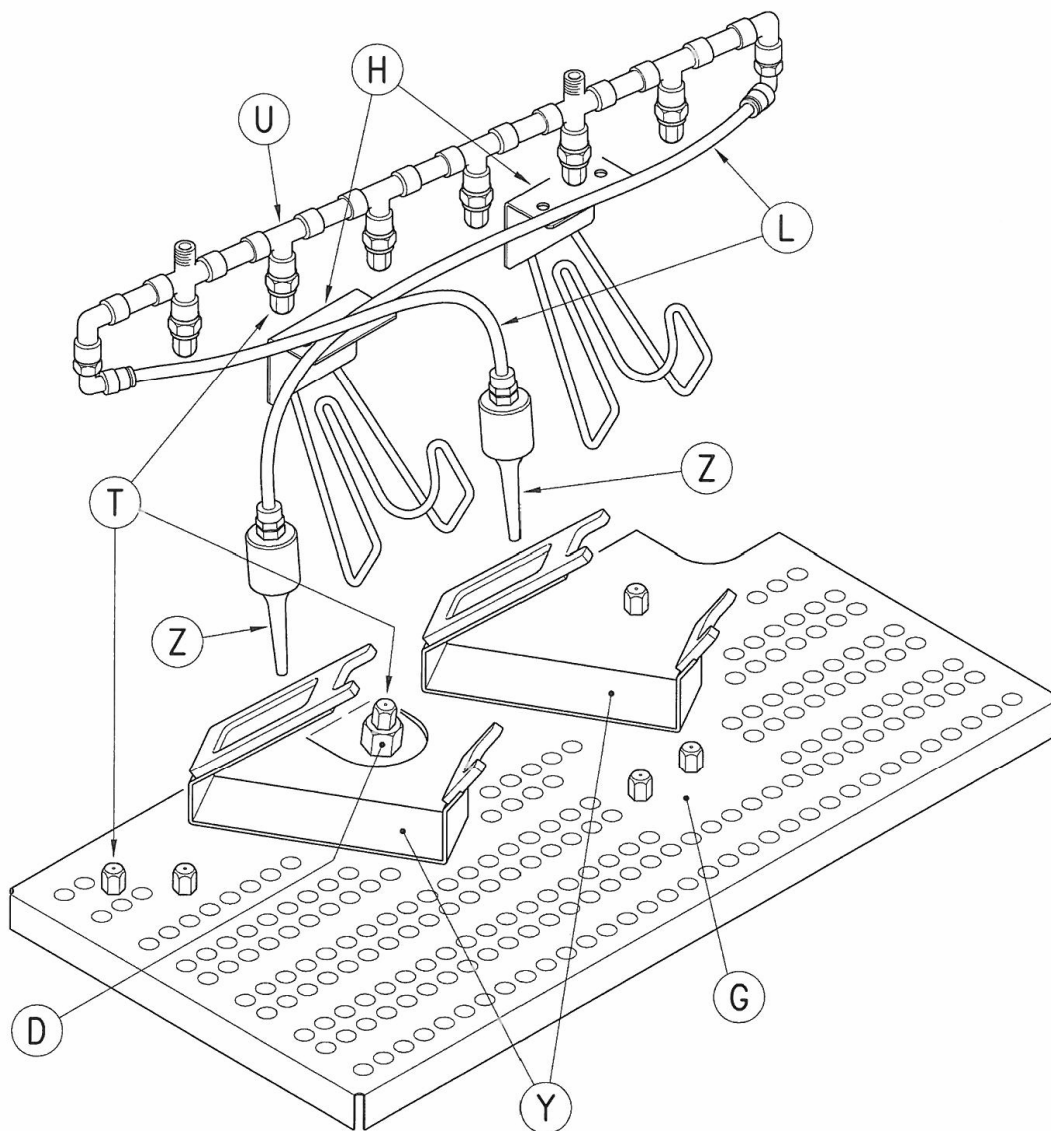

Figure 3
- If pieces are not washed well, **it is recommended** that you check and, if necessary, clean the nozzles inside the washing machine (vedi fig.3).